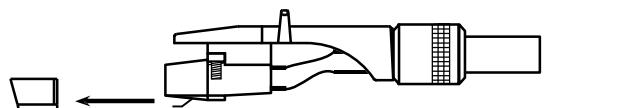

Fig. 6
The supplied cartridge is equipped with a stylus protection cover which has to be removed for operation and some adjustment tasks. Please carefully pull off the protection cover to the front (fig. 6). After use of the turntable, we recommend to put the protection cover on the cartridge again.
- Set the anti-skate control dial (17) to 0.
- Remove the stylus cover of the cartridge (fig. 6).
- Unlock the tone arm lock (12) by sliding the locking lever to the right.
- Adjust the tone arm counterweight (7) by turning it until the tone arm hovers horizontally and stops tilting upwards or downwards by itself.
Remove the stylus protection from the cartridge (fig. 6).